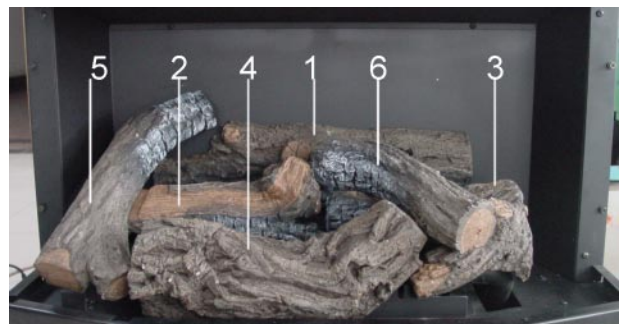

Figure 4
STEP 3: Put log6, on top of log3 as shown in the drawing (See Figure 4).